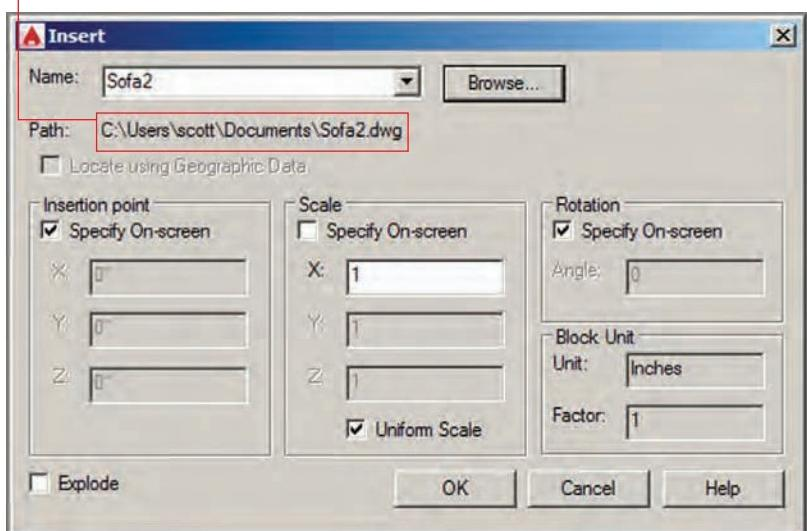

FIGURE 9.8 Configuring a global block in the Insert dialog box
4. Click the Insert tool on the Block panel. The Sofa2 block is not yet defined in this drawing's block table, so you won't find it in the Name drop-down. Click the Browse button and locate the Sofa2.dwg file you saved in the previous exercise, or use the Sofa2.dwg file provided in the Samples folder for Chapter 9. Select Specify On-screen for both Insertion Point and Rotation in the Insert dialog box (see Figure 9.8) and click OK.